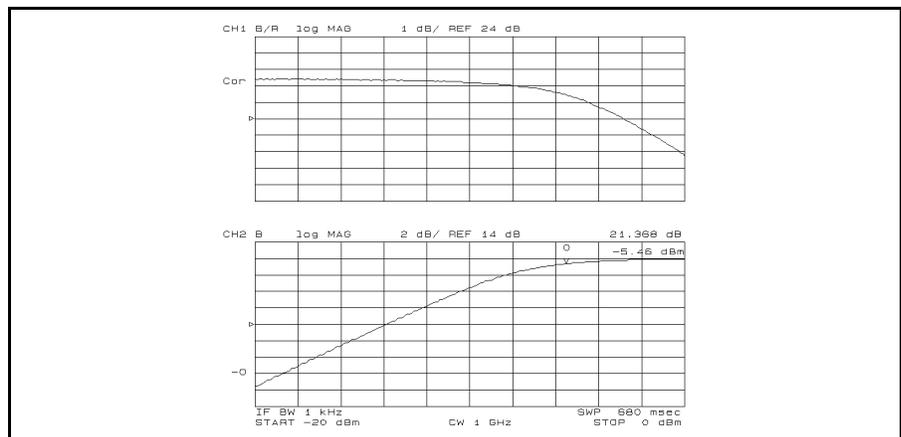

Figure 5-24.
7. Press **[Display]** DUAL CHAN on OFF to ON off to display both channel (see Figure 5-24). Note that you must subtract 3 dB from the input value readout. This is necessary because the input signal is attenuated by the power splitter that is between the RF OUT and the DUT.